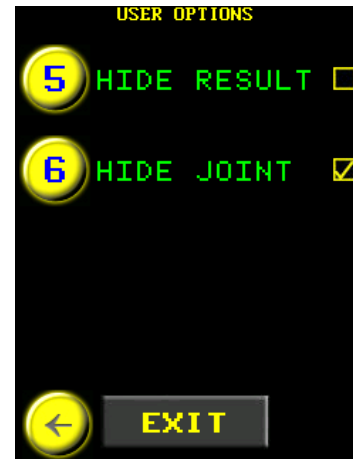

Figure 5.7-2: User Options Menu
6. Select "Hide Joint" to toggle the option on or off (Figure 5.7-2).